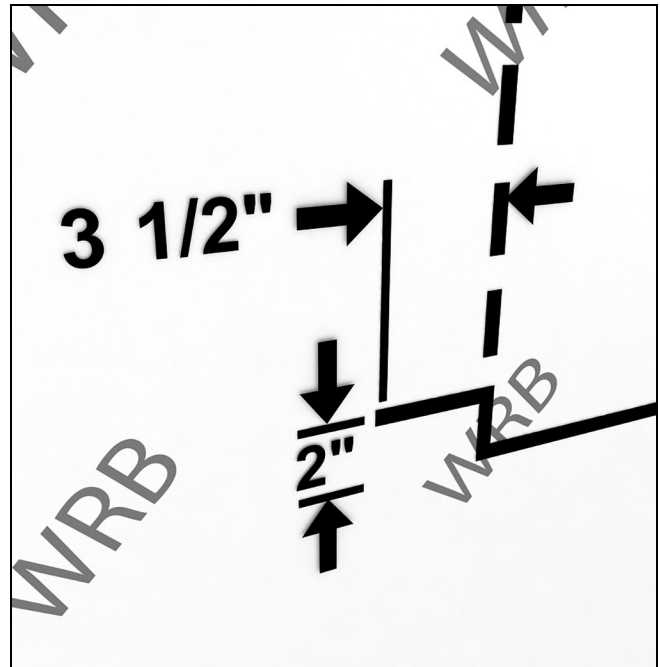

Figure 6
2. Trim up from the bottom corners about 2" (51) and then make an additional horizontal cut about 3 1/2" (89) wide. See Figure 6.